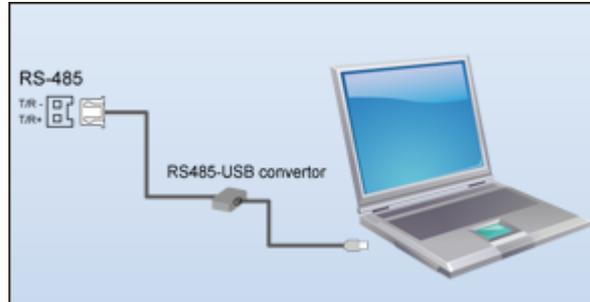

Figure 1
- ◆ Step1: C5-IPC is connected to PC as Figure 1 shows (RS-485 connector of RS485-USB converter should be plugged into the RS-485 port of C5-IPC.)